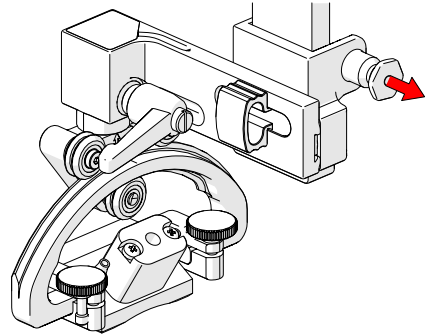

Fig. 52 - Pull latch pin
2. Pull the latch pin to allow movement of the probe holder (Fig. 52).